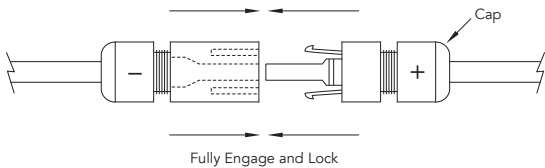

Figure 7: Connector of the plugs
Yingli Solar PANDA BIFACIAL modules are provided with two (2) stranded, sunlight resistant output cables that are terminated with PV connectors ready for most installations. The positive (+) terminal has a female connector while the negative (-) terminal has a male connector. The module wiring is intended for series connections [i.e. female (+) to male (-) interconnections, as shown in Figure 7], but can also be used to connect suitable third-party electrical devices that may have alternative wiring configurations so long as the manufacturer’s instructions are followed.